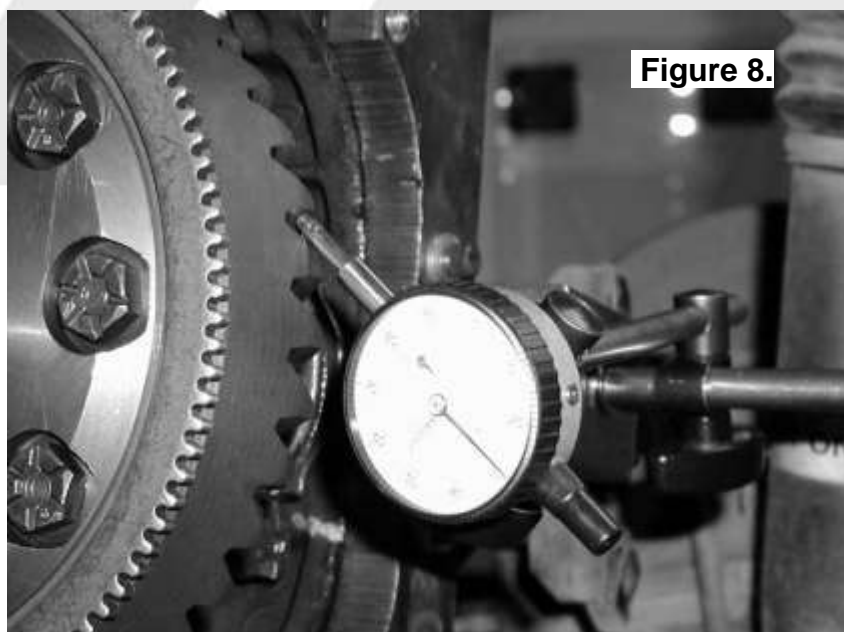

Figure 8.
- ☐ Set a depth indicator on one of the ring gear teeth. (Fig.8.)